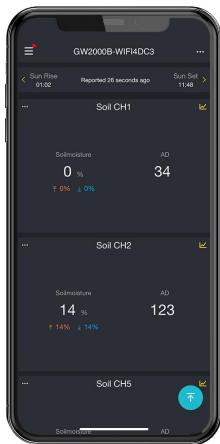

Figure 31: Data on Ecowitt APP
- Monitor live sensor data on the Live Data page of the Ecowitt app (requires the gateway and your phone is using the same Wi-Fi network), like the Figure 31.